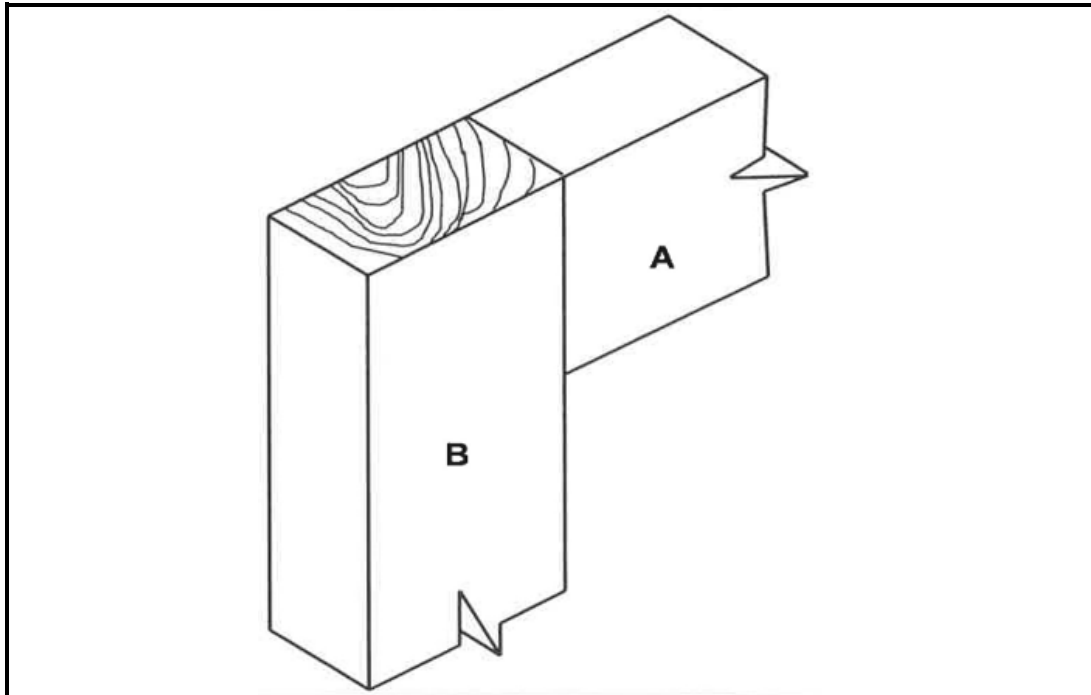

FIGURE 6.3
- 6.3 FIGURE 6.3 shows the incomplete assembled view of an open-haunched mortice and tenon joint. Study the picture and answer the questions that follow.